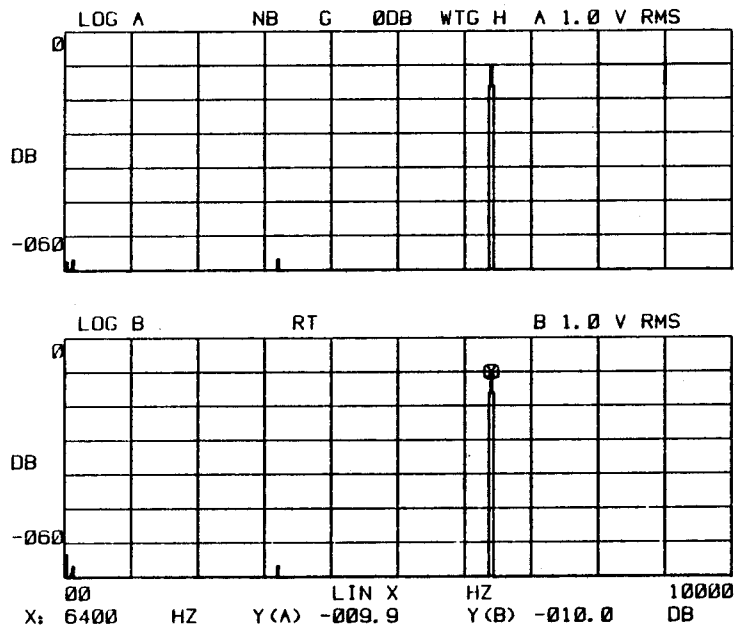

Figure 4-6. Frequency Range Sample Display
- The display will appear as shown in Figure 4-6. The cursor should be at the peak of the spectrum (either trace).